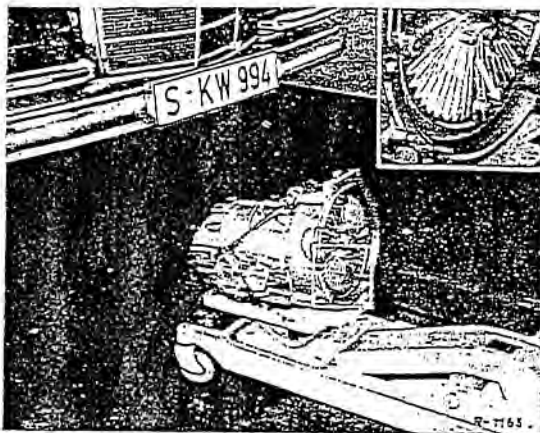

Fig. 27-3/16
20. Remove fluid coupling. For this purpose, screw two M 8 holding bolts into primary rotor. Support transmission vertically and carefully pull out coupling upwardly (Fig. 27-3/17).